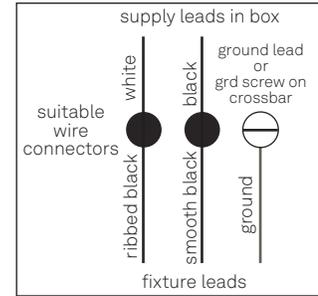

Figure 3. Wiring Diagram
- 7 Connect the exposed leads of the fixture pendants to the leads in the electrical box according to the wiring diagram (Figure 3).